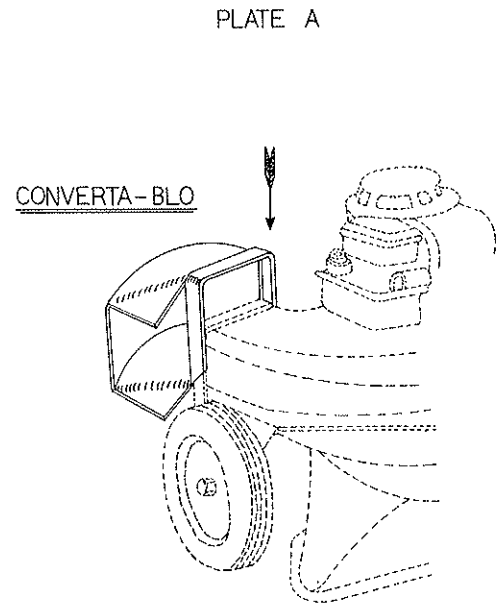

Fig. 1
3. Next install the Converta-Blo attachment by sliding the channel section over the bag retainer bars, Figure 1. The unit is now ready for blowing.